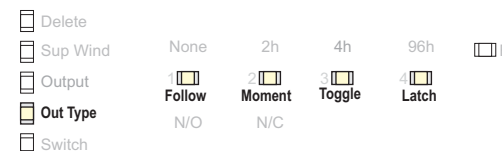

Figure 6 Select the output type
- Use the advance button to select the output type (Fig. 6),